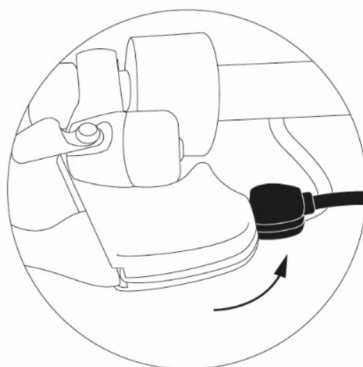

Figure 17 - Disc 4 brake wire installation
6. Pull brake cable sheath and complete its insertion into the adjustment pawl (**See Figure 17 - Disc 4 brake wire installation**);